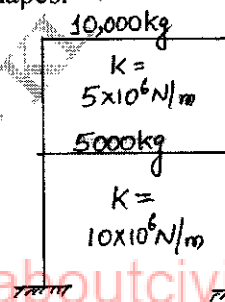

Fig.Q5
- 5 For the shear building shown in Fig.Q5. Compute the natural frequencies and mode shapes. Also draw the mode shapes.